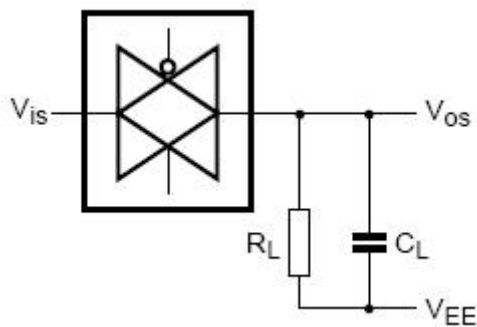

图7、方波失真度、关断频率和导通频率测试图
- 2、 $R_L = 1\text{ k}\Omega$; $C_L = 5\text{pF}$, 通道关断, $20\log V_{OS}/V_{is} = -50\text{dB}$, 见图7
- 3、 $R_L = 1\text{ k}\Omega$; $C_L = 5\text{pF}$, 通道开, $20\log V_{OS}/V_{is} = -3\text{dB}$, 见图7